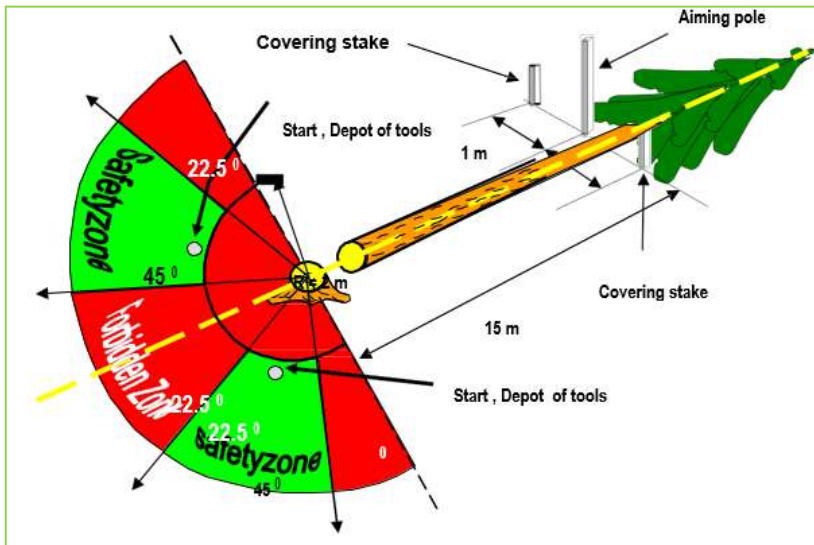
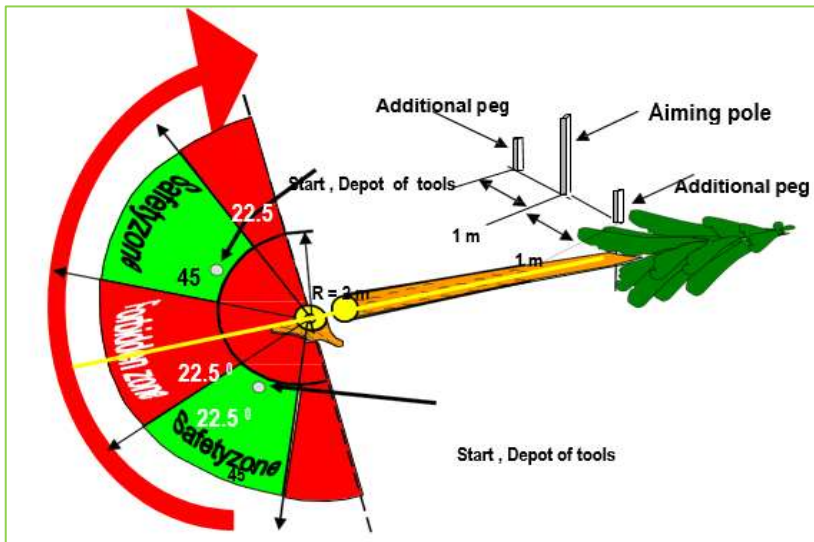
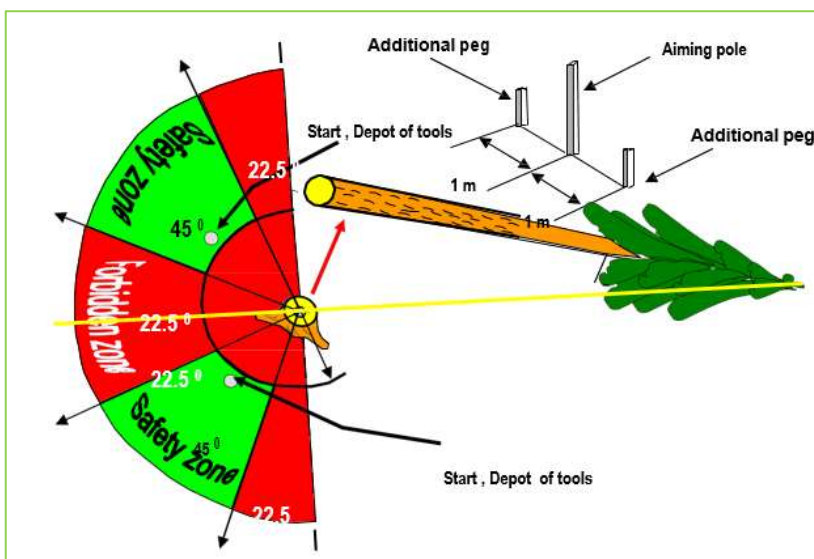

Figure 6: Direction of felling
Figure 7: Safety zone after insecure felling
Figure 8: Safety zone when the tree jumps
- Determining the exact felling direction by the contestant, marking and setting up posts to ascertain the definite felling direction (see figure 6)
- Indicating the starting lines (see figure 6)
- Marking the retreat zone to the left and right of the tree (see figure 6- figure 7)
The contestant determines the exact direction in which he wants to fell the tree. The contestant places or shows where to place a sharpened stake with a length of 1.5 m at a distance of 15 m from the tree. The stake will not affect the fall of the tree. The contestant has a maximum of 2 minutes to determine the direction in which the tree is to be felled. The assistants also place two additional 50 cm pegs at a distance of 1 m on both sides of the stake mark (see figure 6). If there is an obstacle (tree stump, etc.) and another distance has to be selected, the exact distance is noted down.
In the meantime the contestant may prepare the trunk (remove undergrowth, remove earth from trunk). The tools are to be placed in the safety zone before the start (see figure 6). After the start the contestant can move the tools as required.
The forbidden zone is the area that covers an angle of 45° on either side of the sector around the axis of the felled tree. Depending on the danger, the contestant can retreat to either of the safety zones (see figure 6, figure 7 and figure 8).
When the tree does not fall on the aiming point, then the direction of the safety zone changes corresponding (figure 7).
When the tree jumps after hitting the ground then the template will be put to the stem and according to Figure 8 the safety zone will be measured.